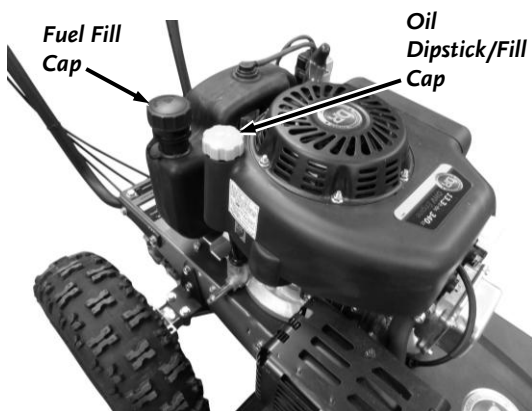

Figure 10
1. Place the machine on a level surface, remove the Oil Fill/Dipstick (**Figure 10**) and clean the end of it with a rag.
1. Check the oil level every time you use the machine. See **Figure 10 on page 11**.